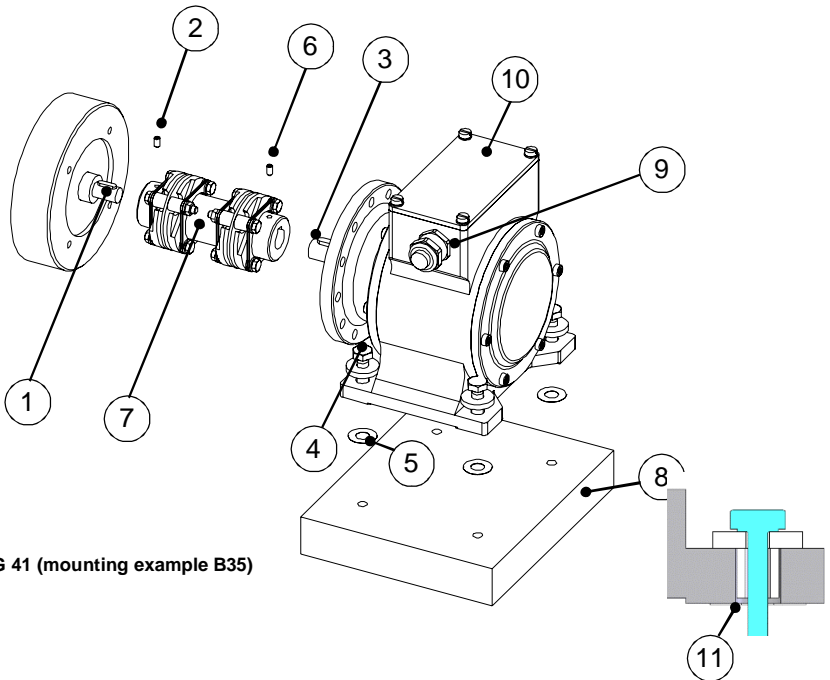

Fig. 2: FG 41 (mounting example B35)
1. Open the terminal box cover (10) (see Fig. 2).
2. Remove the cap of the cable gland (9) (see Fig.2).